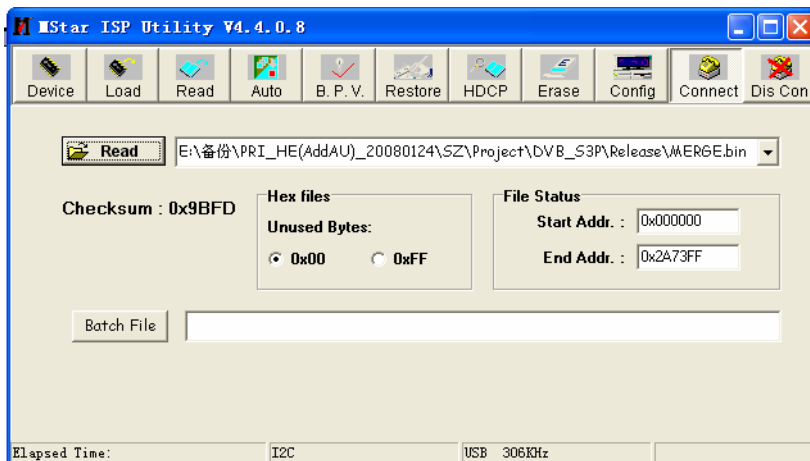

Fig. 17 Burning file
- d) Press menu “**Read**”, select burning file, such as “**MERGE.bin**”, please refer to Fig. 17;